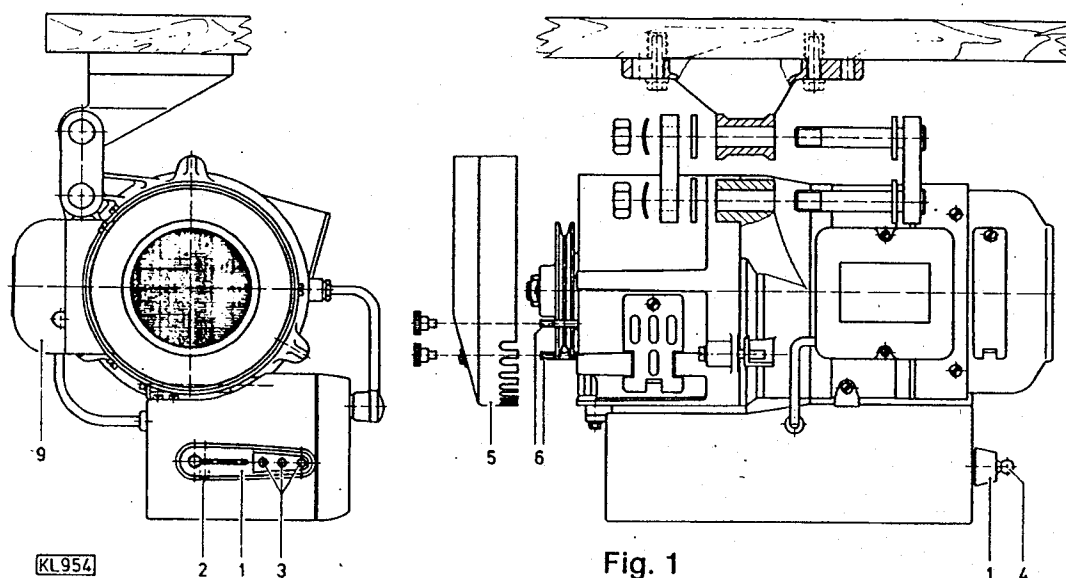

Fig. 1
EFKA-VARIOSTOP needle positioners correspond in their dimensions to the German Industrial Standards DIN 42706 and to the dimensions used in the USA for the installation of motors. Installation in conformity with figure 1.
The belt-guard for pulleys up to 132 mm Ø is equipped with a belt guiding and a belt catching device in compliance with DIN 42703. The assembly and adjustment of these devices must be effected as follows (figure 1, 2):
The diagram for the connection to the mains is glued into the cover of the terminal box (9), see figure 1. In accordance with DIN VDE 0281 part 402 the mains connection cable between plug and protective motor switch must be as follows: